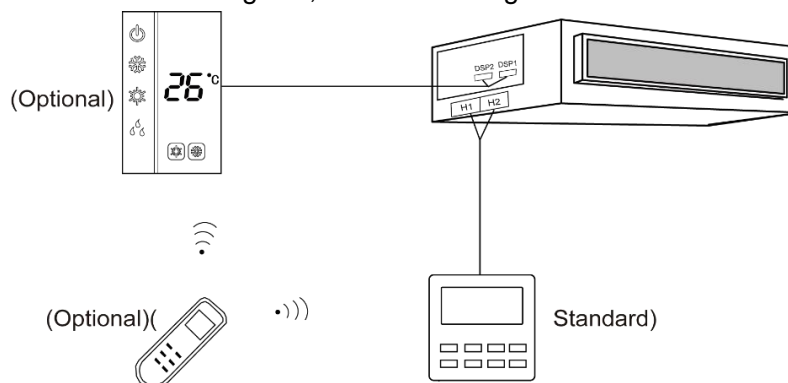

Fig 5.4.3
- 3) Wired controller and receiving light board can be installed at the same time. When operating through a remote controller, both wired controller and the receiving light board can receive the signals, as shown in Fig 5.4.3.